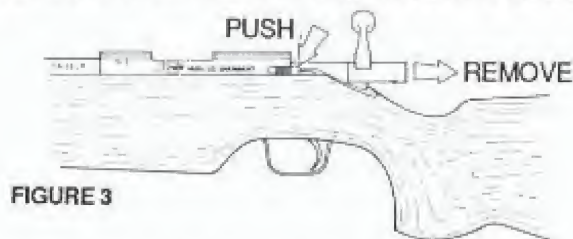

FIGURE 3
Removal of Bolt: Pull bolt (S-412) to rear while depressing bolt stop (S-415). Bolt will slide out of receiver (A100/600). (See Figure 3) No further disassembly is required for routine cleaning or maintenance.
Replacement of Bolt: Pull trigger (A-215GA) and slide bolt into receiver (A100/600) closing bolt completely, and lower bolt handle (S-412). **Note:** Bolt can only be placed in receiver in cocked position (See Figure 3).
**NOTE:** See Figures 3, 4, 5, 6, 7, 8 and reverse procedures for assembly.